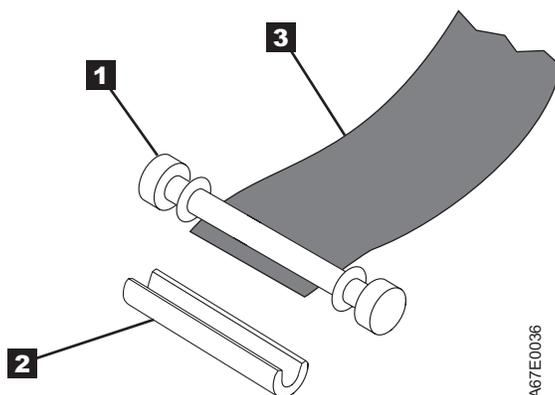

Figure 56. Removing the C-clip from the leader pin. Use your fingers to push the C-clip from the leader pin.
5. On the leader pin (**1** in Figure 56), locate the open side of the C-clip **2** . The C-clip is a small black part that secures the tape **3** to the pin.